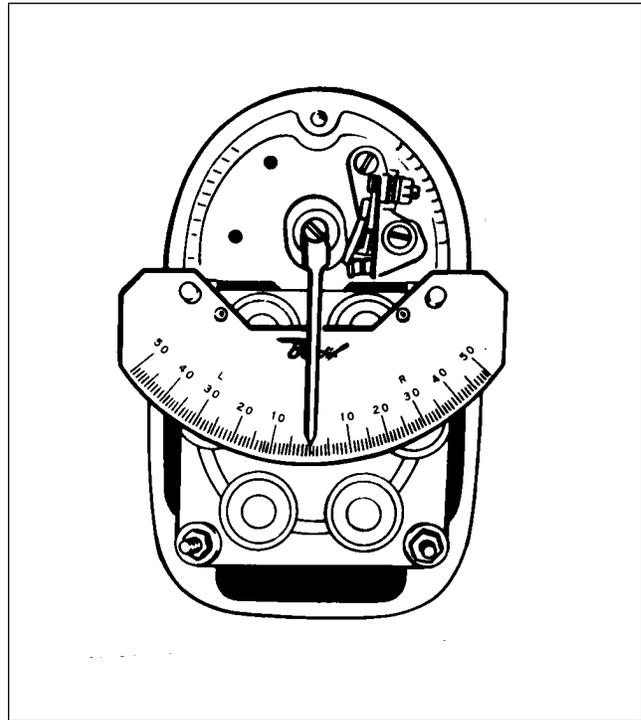

Figure 74-25. Timing Kit Installed
- D. Install the 11-8693 Timing Plate Assembly and the 11-8149 Pointer Assembly of the 11-8150 Scintilla Timing Kit to breaker compartment of magneto. (Refer to Figure 74-25) Align pointer assembly with the 0 mark on timing plate. Loosen adjusting knob of 11-8465 Rotor Holding Tool and turn rotating magnet in normal direction of rotation until pointer indexes with the respective E gap mark ( $15^{\circ} \pm 2^{\circ}$ ). Tighten adjusting knob of 11-8465 Tool and remove the 11-8149 Pointer Assembly from magneto. Using a timing light, adjust contact points to just open. This adjustment shall be made by rotating cam, in opposite direction of rotation until contacts just open. While holding cam in this exact position, push cam on magnet shaft as far as possible with the fingers. Extreme care must be exercised in this operation. If cam adjustment is changed in the slightest degree, the timing of the magneto will be thrown off. Do not drive cam on shaft with a mallet or other instrument. Tighten the securing screw thereby drawing the cam down, evenly and tightly. Torque screw to 16-20 inch-pounds. Loosen the 11-8465 Rotor Holding Tool adjusting knob and return rotating magnet to neutral position. Reinstall the 11-8149 Pointer Assembly over 0 mark on timing plate. Rotate magnet shaft in normal direction of rotation and check for opening of main contact points at E gap setting ( $15^{\circ} \pm 2^{\circ}$ ).